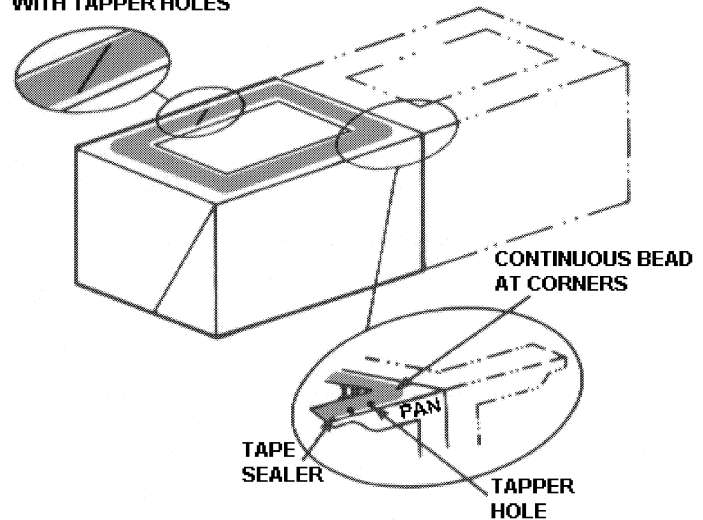

FIGURE 1. TAPE SEALER
3. Apply the 2" (25.4 mm) flat (trapezoidal cross section) tape sealer around the periphery of the top flange of the pan-fan section as shown in Figure 1. This tape sealer must be centered directly over the center-line of the end flanges where there are no taper holes.